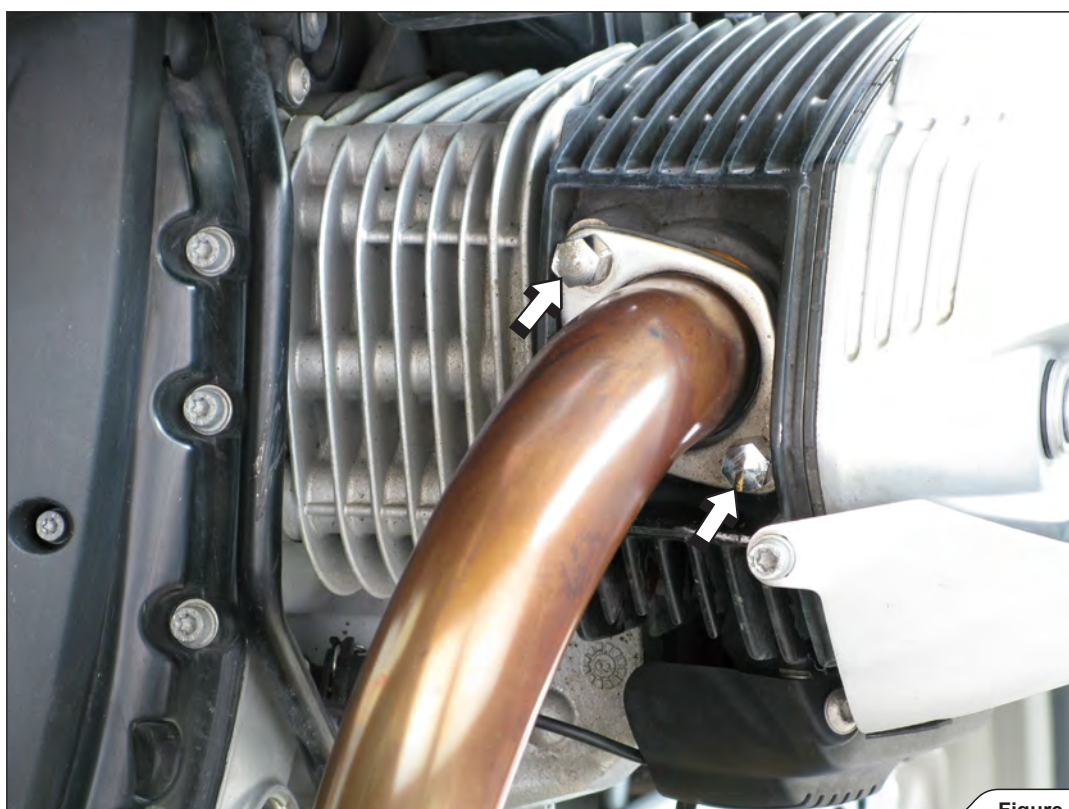

Figure 6
7. Unscrew the header tube flanges on both sides of the motorcycle and remove the header tubes (Figure 6).